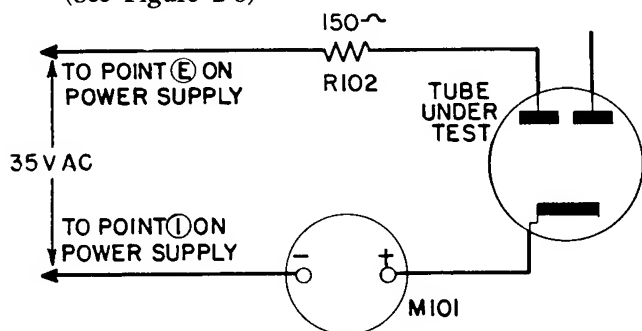

Figure 2-6. Simplified Rectifier Test Circuit
(See Figure 2-6)
e. Pressing the OZ4 push button P2 sets up a circuit similar to Figure 2-6, but a higher voltage is applied, 287 volts ac.
f. Pressing the DIODE push button P1 also establishes a circuit similar to Figure 2-6, but a lower voltage, 20 volts ac, is used to protect the delicate cathodes of these tubes.